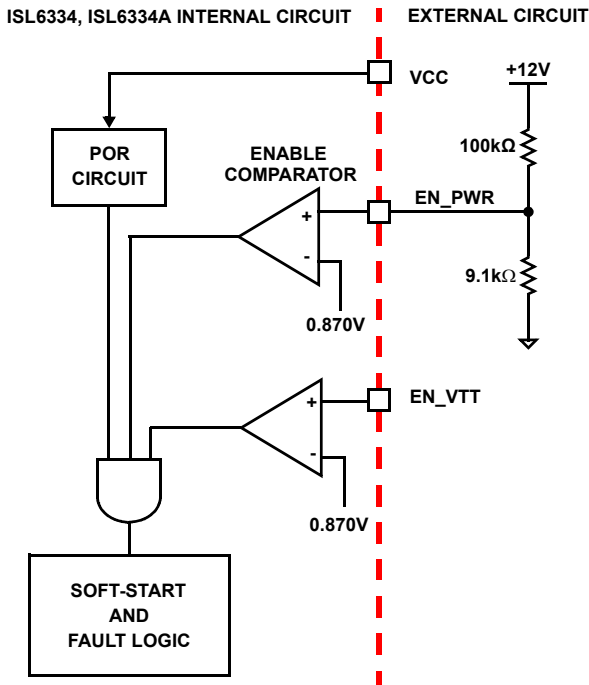

FIGURE 12. POWER SEQUENCING USING THRESHOLD-SENSITIVE ENABLE (EN) FUNCTION
2. The ISL6334, ISL6334A features an enable input (EN\_PWR) for power sequencing between the controller bias voltage and another voltage rail. The enable comparator holds the ISL6334, ISL6334A in shutdown until the voltage at EN\_PWR rises above 0.870V. The enable comparator has about 130mV of hysteresis to prevent bounce. It is important that the driver reach their POR level before the ISL6334, ISL6334A becomes enabled. The schematic in Figure 12 on page 21 demonstrates sequencing the ISL6334, ISL6334A